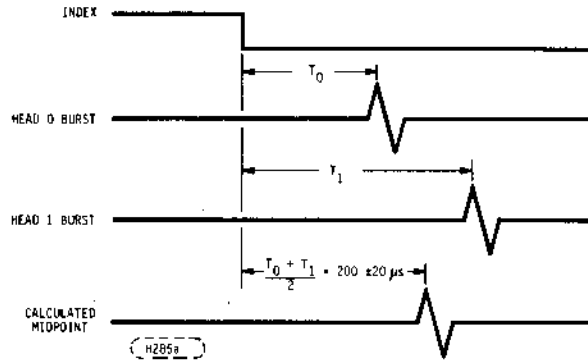

FIGURE 6-4A. INDEX TO BURST TIMING ADJUSTMENT
- f. Adjust the time from the leading edge of the Index pulse to the midpoint between the burst pulses of Head 0 and Head 1 at Track 34 until it measures  $200 \pm 20$  us, (refer to Figure 6-4a). To adjust the index to burst time turn index potentiometer on the Data Control PWA.